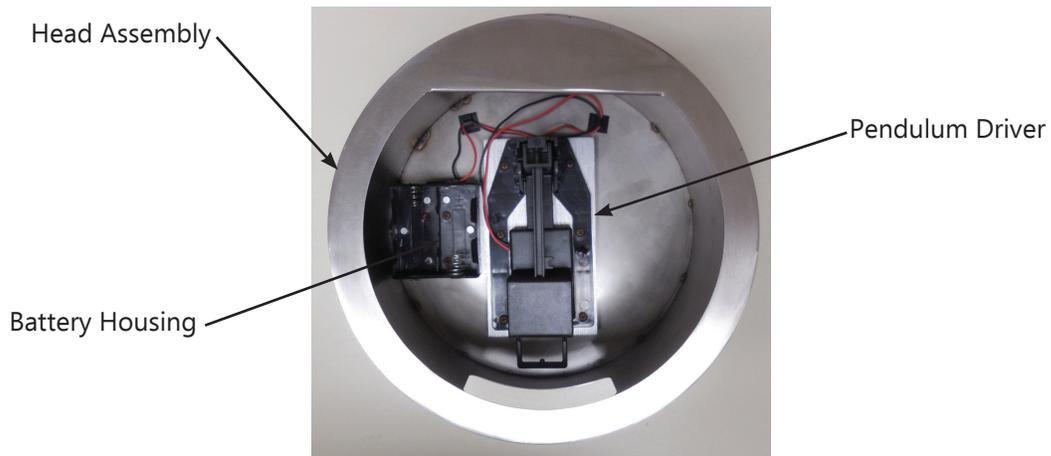

Figure 7
9. Locate the Pendulum Driver and Battery Housing inside the Head Assembly (Figure 7).